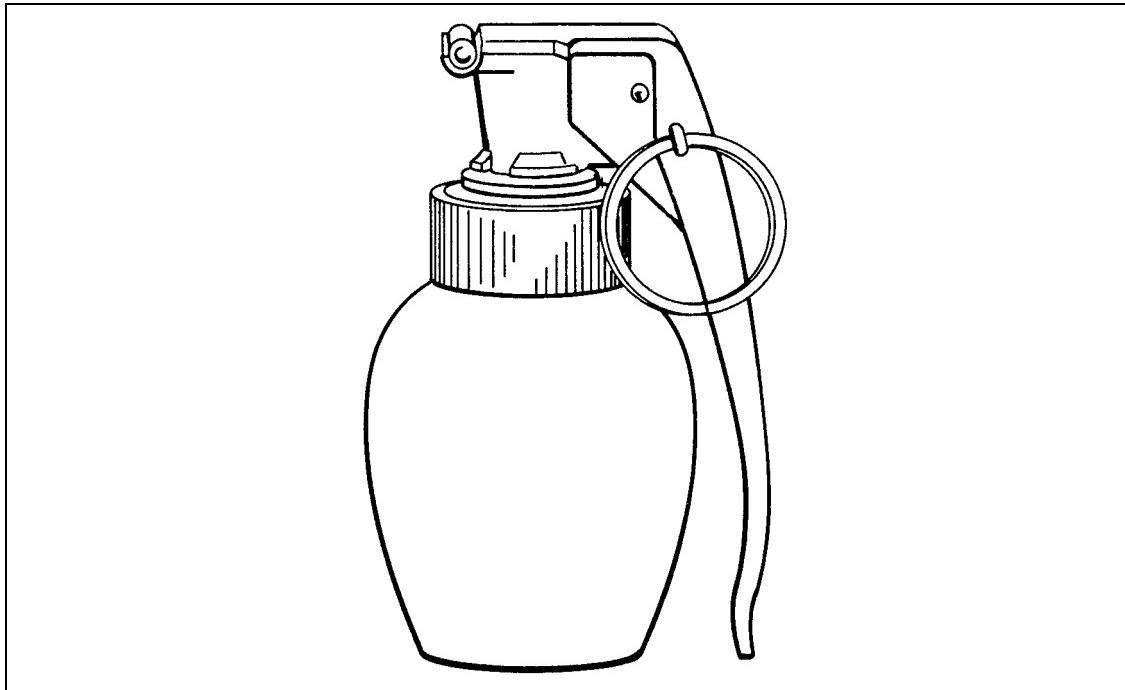

Figure F-14. PC1 practice hand grenade.
- Type: Practice. (Figure F-14)